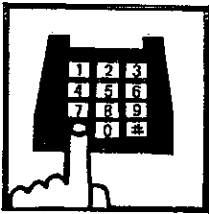
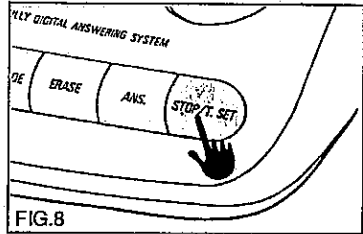

FIG.7
FIG.8
2. When a call comes in, wait for the caller to speak. If you decide to accept the call, pick up the phone to speak with the caller. Press * button on the phone FIG.7 or STOP/T.SET FIG.8 on the unit to stop recording, if necessary.
In Answer-on or Answer-only modes, you may pick up the phone anytime during OGM or during recording of a message to speak with the caller. Press * button on the phone FIG.7 or STOP/T.SET FIG.8 on the unit to stop recording, if necessary.